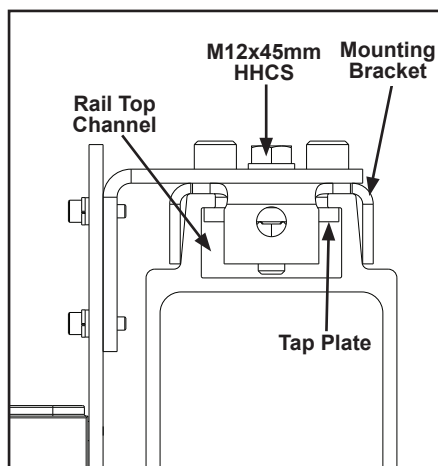

Figure 3-134
- Step 1. Remove cross bolts. Loosen M12 x 45mm HHCS mounting bracket bolt and slide rail mounting bracket on top of bracket channel and tap plate into bracket channel at top of runway rail. Position per system layout. See Figure 3-134.